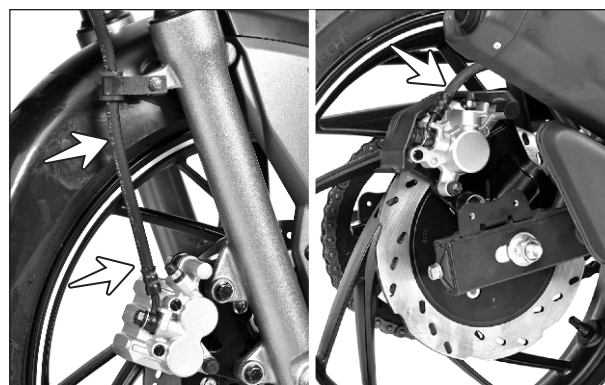

Fig. 2.115
- Inspect the front and rear brake hoses for any visual damage / crack and oil leak. If found any, replace the respective hose. However the brake hoses must be replace every three years without fail for the safety. (Fig. 2.115)